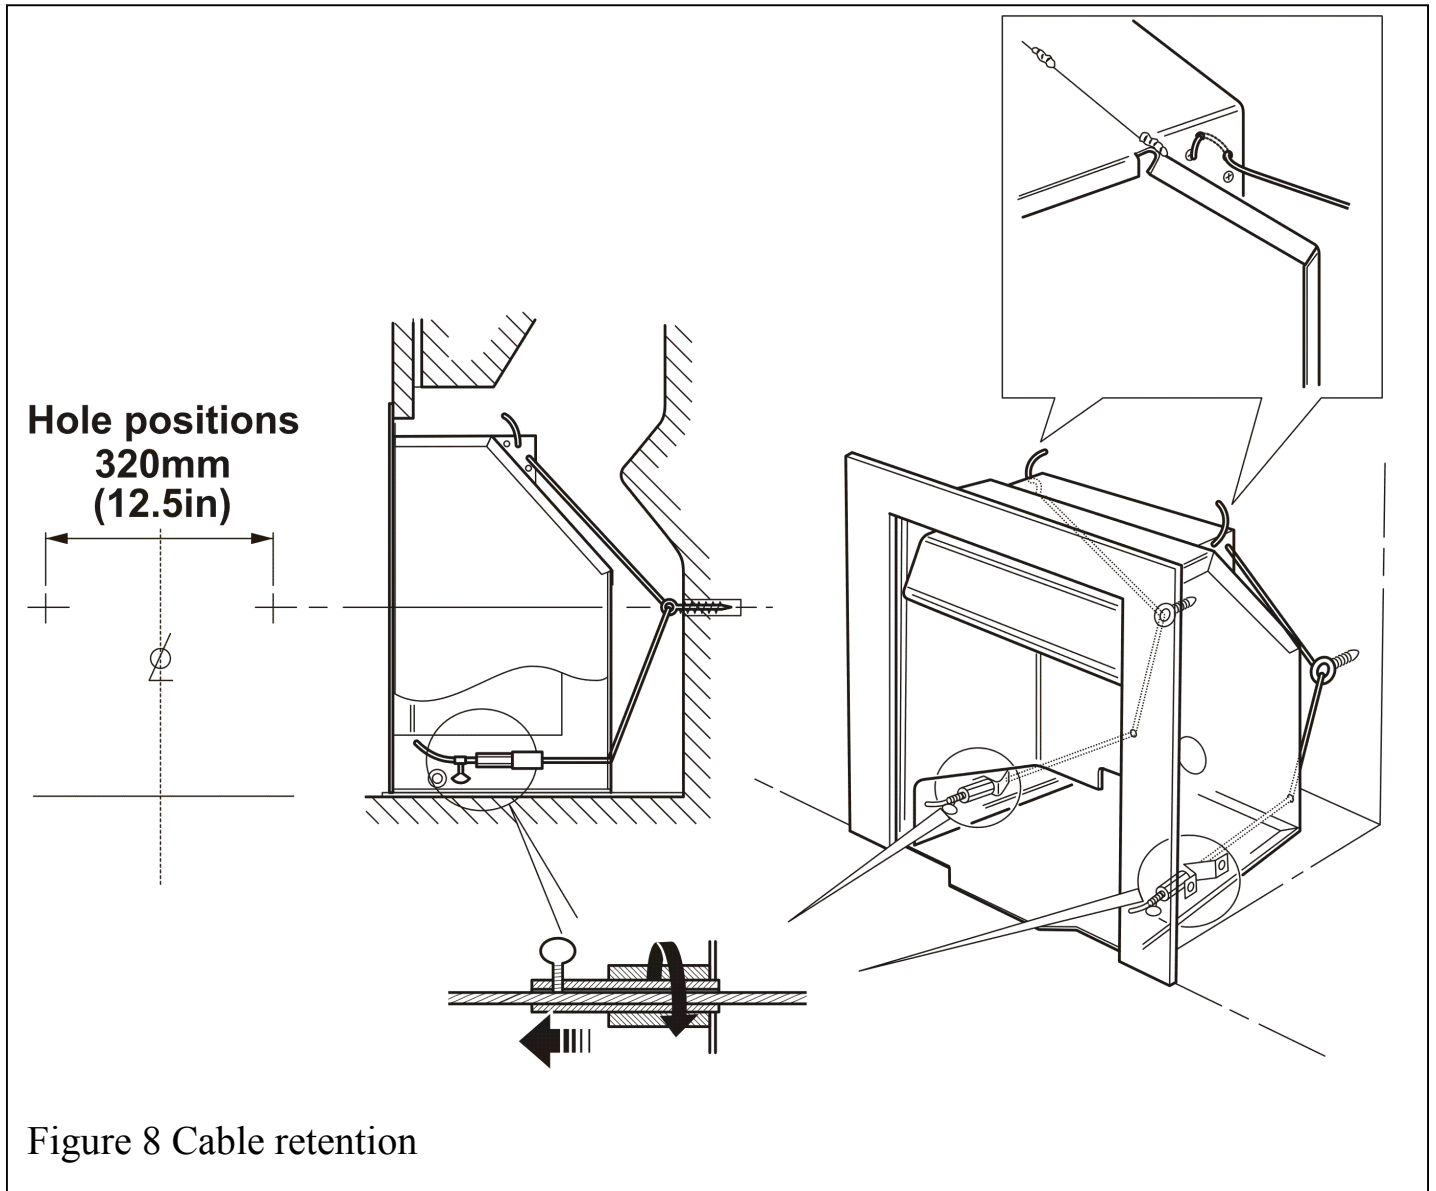

Figure 8 Cable retention
2. Drill two holes in the rear wall of the fireplace for the eyebolt plugs. The holes should be drilled in the positions shown in figure 8 using a no.12 masonry drill. The holes should be equidistant each side of the centre line of the fireplace to ensure that the appliance finishes centrally in the opening when tension is applied to the cables.
5. The convection box has two holes at each end of the debris deflector (See figure 8). Insert one end of each cable (one cable each side) from the back through the lower of the two holes and return the end through the upper of the holes. See figure 8. Give the cables a pull so that they grip against the debris deflector sides.
6. Thread the cables through the eyebolts. Return the cables through the holes near the bottom of the convection box back panel and through the “V” shaped brackets near the bottom of the convection box sides (See figure 8).
9. Pull each cable taut. Push the cable retainers hard up against the V brackets. Tighten the screws in the retainers so that they clamp the cables in position. Apply tension to the cables by turning the hexagonal adjusters by hand (See figure 8).